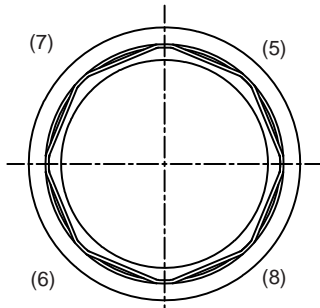

FIGURE 2
b. "Split the difference" between these (4) points and push the O-ring into the groove as shown in Figure 2.